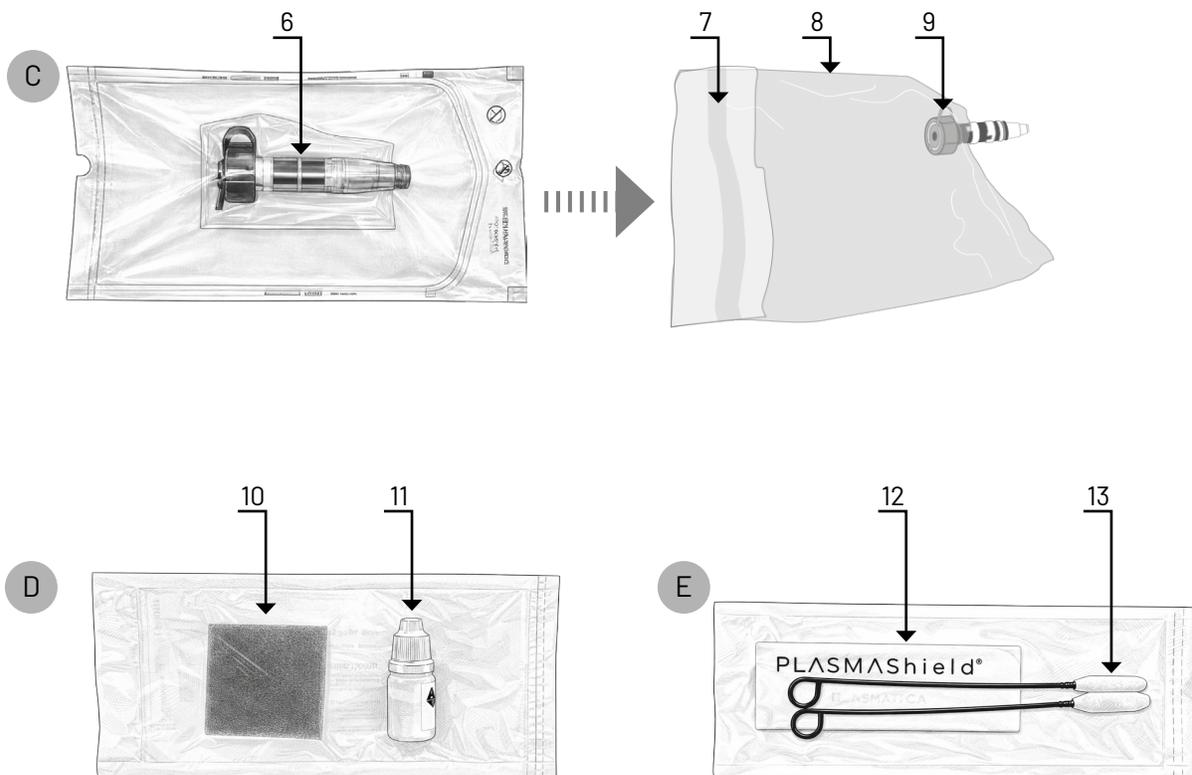

Fig. 3 (PLASMAShield® Disposable, Anti-Fog Solution, and Trocar and Scope Cleaning Set)
For 10 mm scopes, remove the 5 mm Scope Adapter from the Disposable. For 5 mm scopes, use the Scope Adapter (see Fig. 3, C-9).
3. Cover the Base completely by removing the Drape adhesive tape liner (see Fig. 3, C-7) and taping the Drape closed.
5. Open the Anti-Fog Solution and Sponge pouch (see Fig. 3, D) in the sterile zone. Remove the adhesive tape liner and stick the Sponge onto the Base Drape above the Disposable, making sure not to cover the Display Screen with the Sponge.